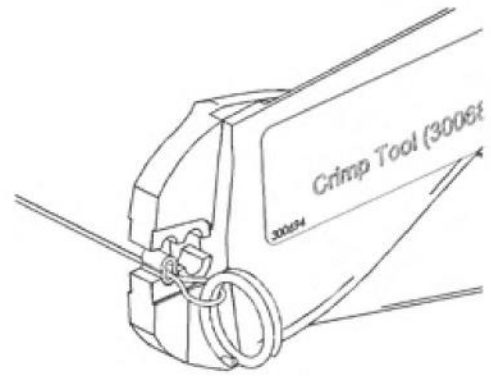

Figure 9
1. Grip and center the loop sleeve lengthwise in the crimp tool using the top hole (hole farthest from the crimp tool handles; see Figure 9).